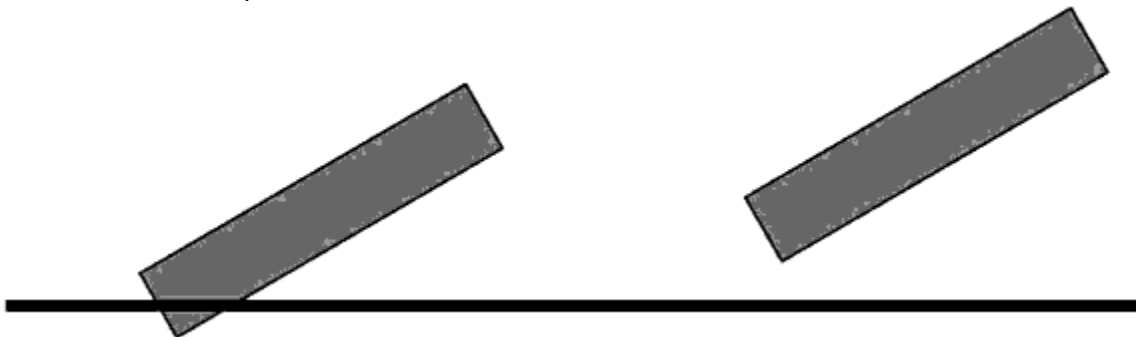

Figure 6 Incorrect Application (on the left) Correct Application (on the right)
- Wire segments must be fully located above the groundplane at $z=0$, as illustrated in Figure 6 Incorrect Application (on the left) Correct Application (on the right). To guarantee that the wire is fully located above the ground plane, add the wire radius in the BONDW_Shape component.